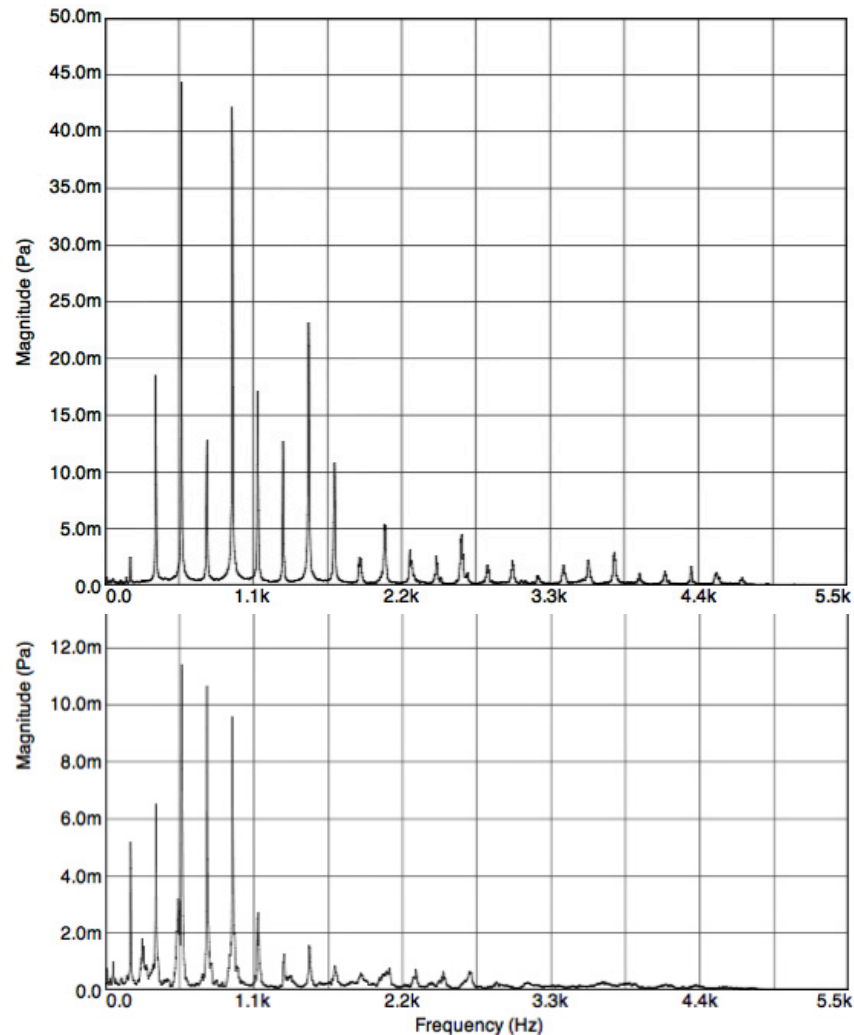

Figure 4: Sound spectrum from the G3 open string of a violin. Top figure: Spectrum from bowed string. Bottom figure: Spectrum from plucked string.
Figure 4 shows the sound spectrum of the G3 open string of a violin when it is bowed (top plot) and plucked (bottom plot).
1. How many harmonics can you see for the bowed string (Figure 4, top)? Note the relative amplitudes of the harmonics and the overall shape of the spectrum.
2. Same as the previous question for the plucked string (Figure 4, bottom). Discuss the similarities and differences in the spectra of the plucked and bowed string.